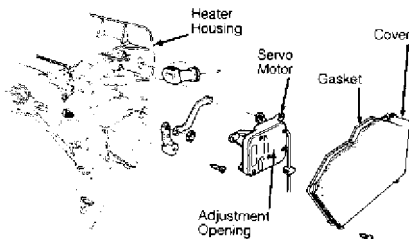

Fig. 3: Adjusting Heater Flap
2) To adjust, insert screwdriver through hole in servomotor housing. Turn screwdriver clockwise to decrease value or counterclockwise to increase value. See Fig. 3.